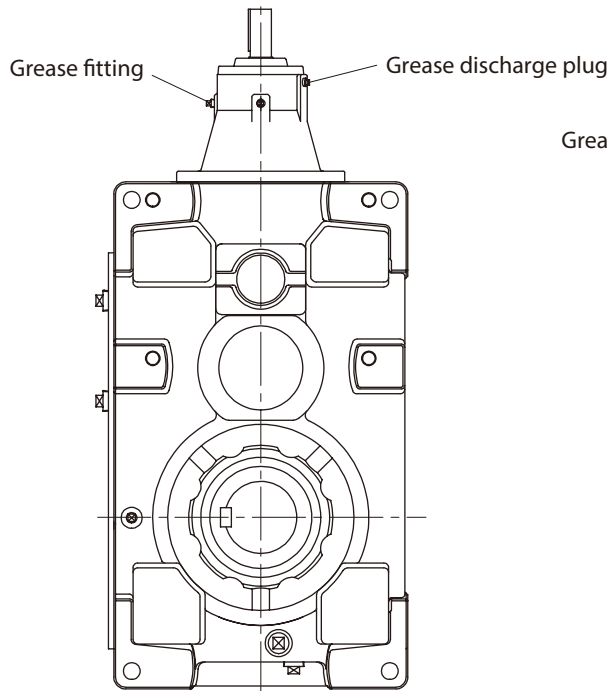

Fig.8-3 Reducer upright mount
- For the place grease fitting and discharge plug, refer to Figure 8-3 to 8-5 on P27.
(3) Lubricant selection